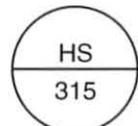

Figure 64. Instrument Tag
- 3. Determine the measured variable and function of the device using the instrument tag in figure 64.